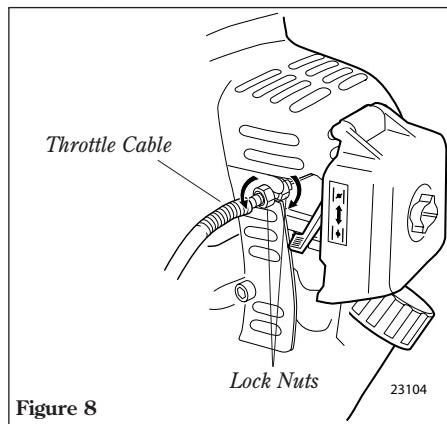

Figure 8
1. Loosen the throttle cable lock nuts and adjust in or out to achieve proper free play of 3/16-1/4 inch(4-6 mm). See Figure 8.